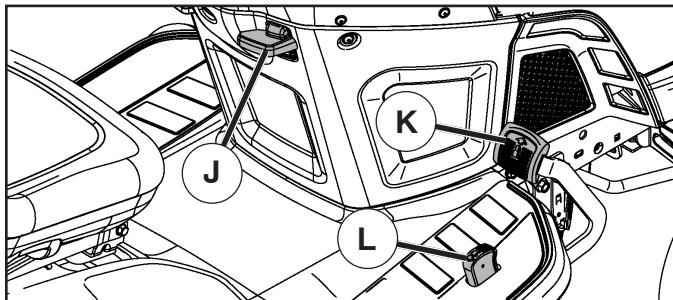

Fig. 8
## TO MOVE FORWARD AND BACKWARD (See Fig. 8)
## TO USE CRUISE CONTROL (J) (See Fig. 8)